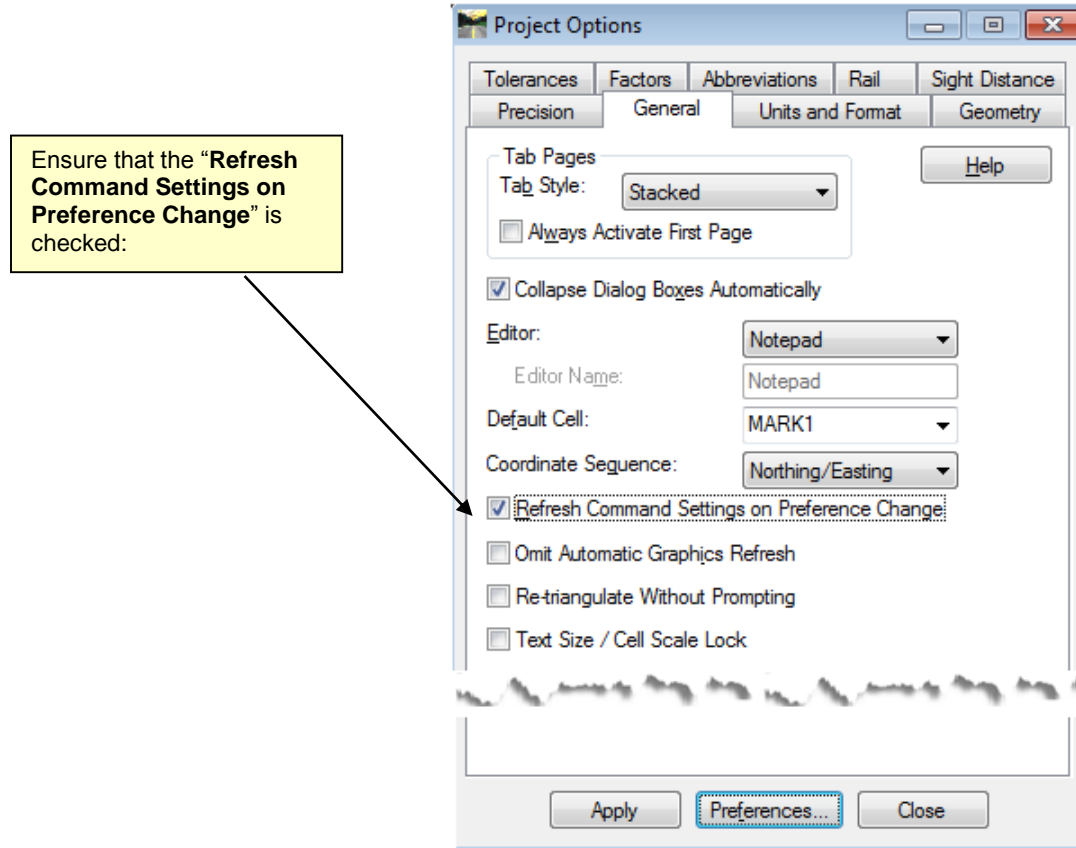

Figure 1-7 Design Default Settings
5. The **Design Default** Preference should now correspond to the screen capture depicted in *Figure 1-7* (as shown below).